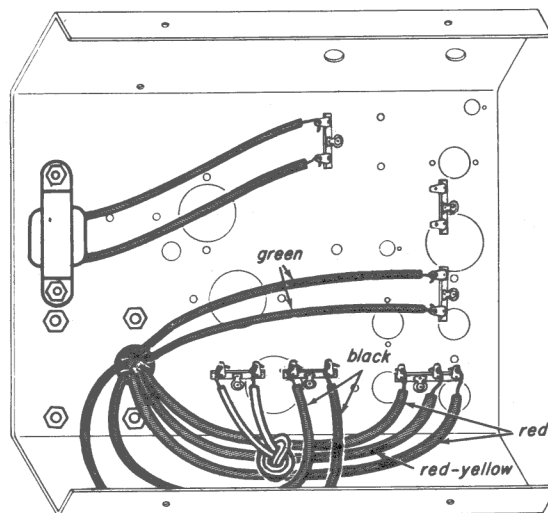

Fig. 14-5
Step 2. Solder the two red and one red-yellow transformer leads to the 3-lug terminal strip, as shown in Fig. 14-5. Make sure that the red-yellow lead is in the center.
Step 3. Solder the black transformer leads to the terminal strip and dress the wire as shown in Fig. 14-5.
Step 4. Solder the green transformer leads to the terminal strip as shown in Fig. 14-5.
Step 5. Solder the choke leads to the terminal strip shown in Fig. 14-5.